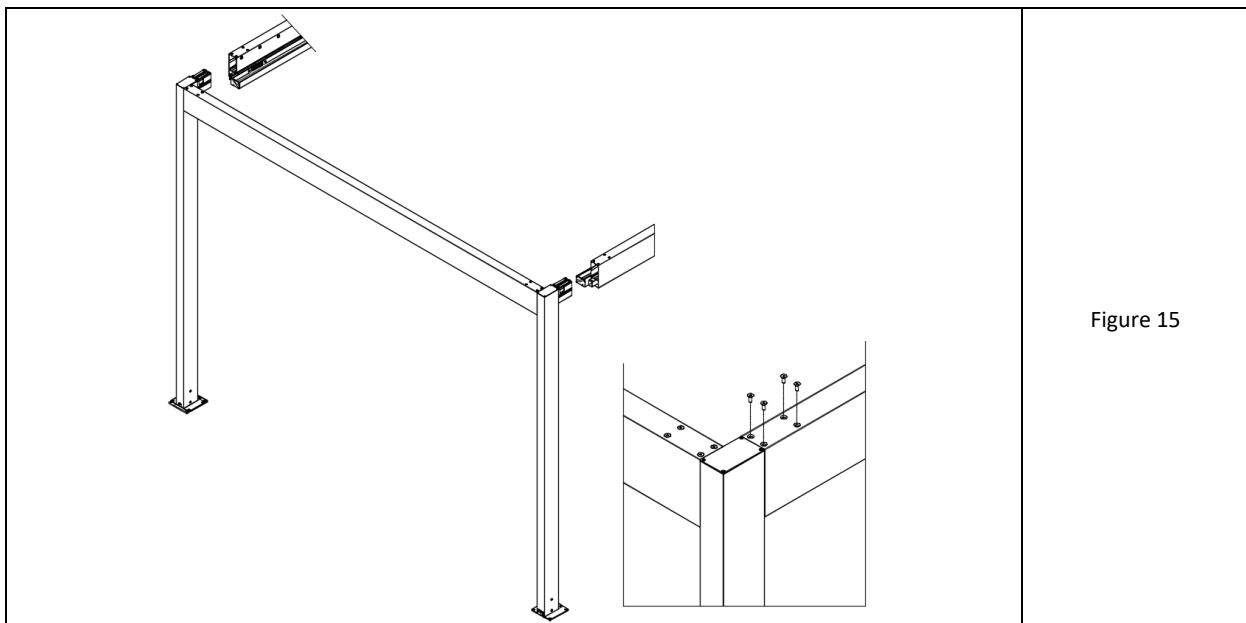

Figure 15
3. Screw the end of the lengthwise beam inserted into the bone of the cross-frame from the side of the upper chamber of the beam using 4 conical screws M8 x 20 with an Allen socket, according to fig. 15.